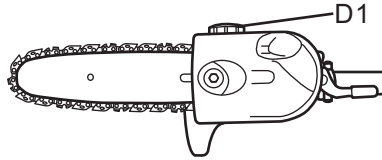

Fig. 8a
1. Set the product on any suitable surface with the chain oil tank cap (D1) facing upwards. (See Fig. 8a)